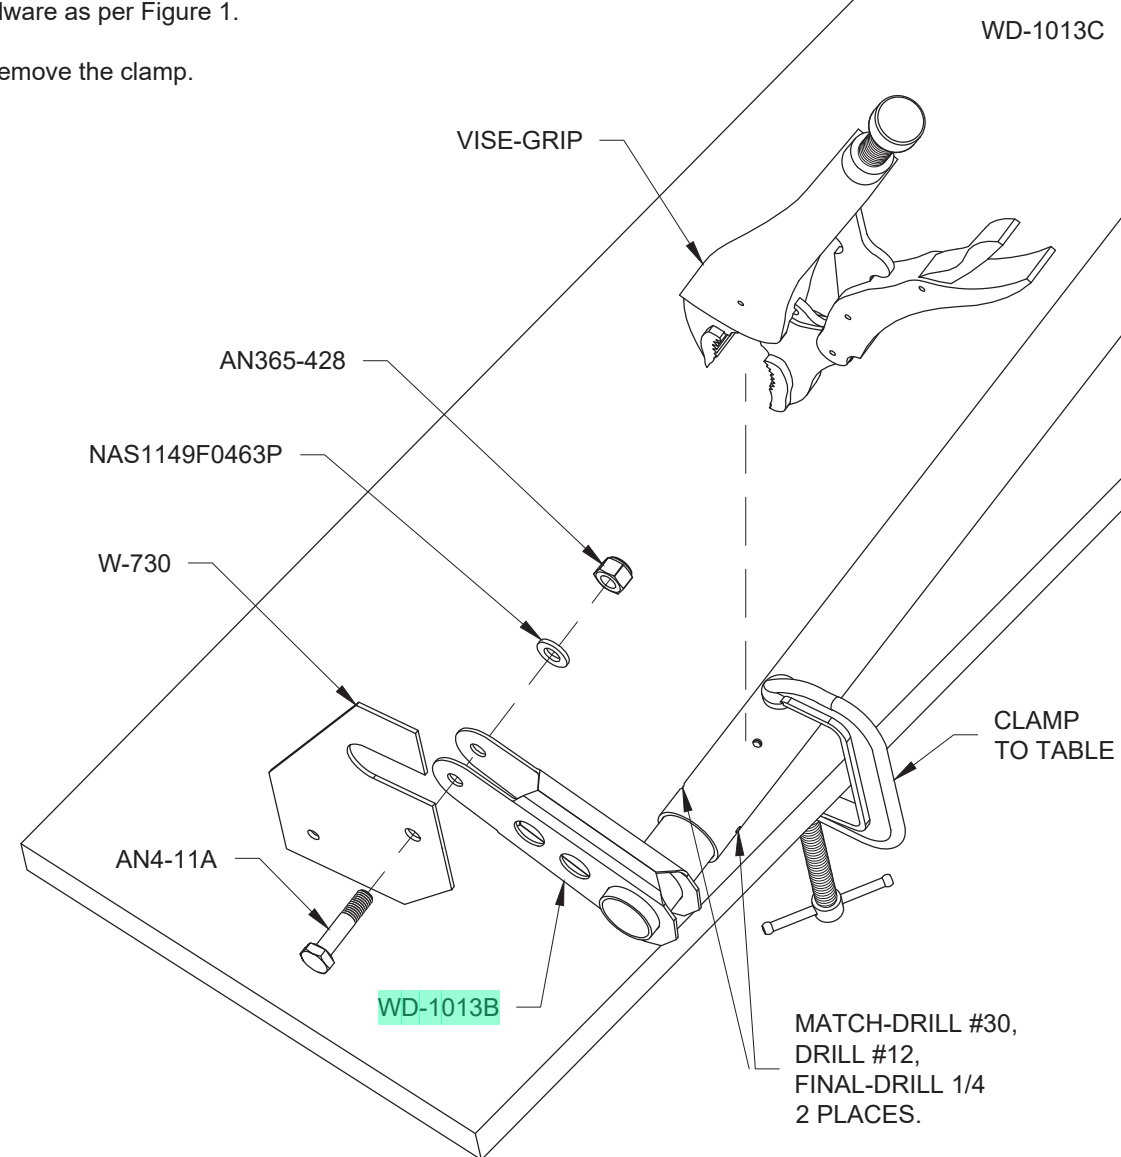

FIGURE 1:
Step 7: Continue drilling to final size as per the call-out. Insert hardware as per Figure 1.